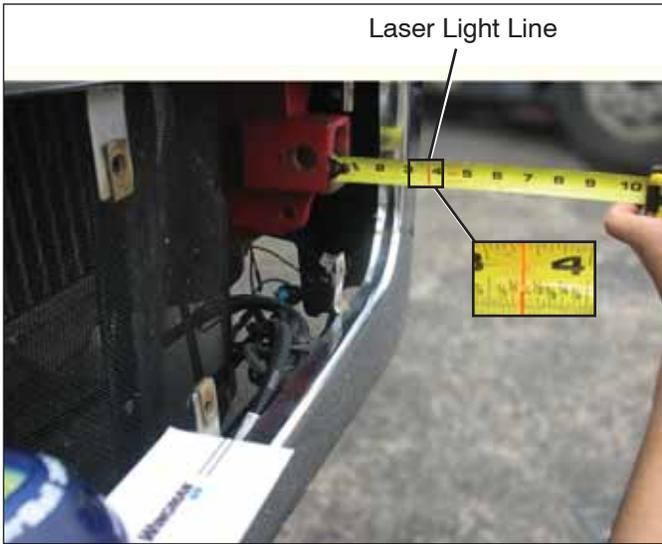

FIGURE 35 - LATERAL ALIGNMENT VERIFICATION
5. Using a ruler or tape measure, measure the distance from a symmetrical vehicle point (such as the tow hooks) to the laser light line. Record this measurement. See Figure 35.